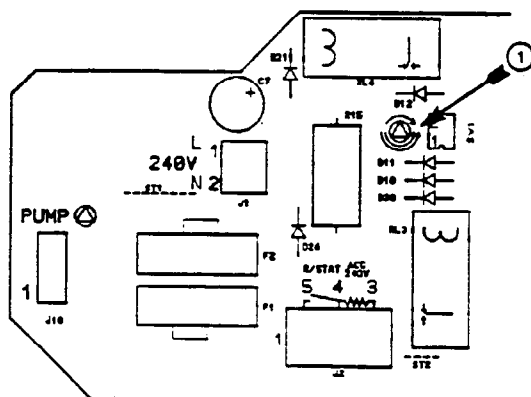

Fig. 39b
It is possible if required, to have the pump running continuously by turning the switch ① anti-clockwise, see fig. 39b. The room thermostat then only switching the burner on and off.